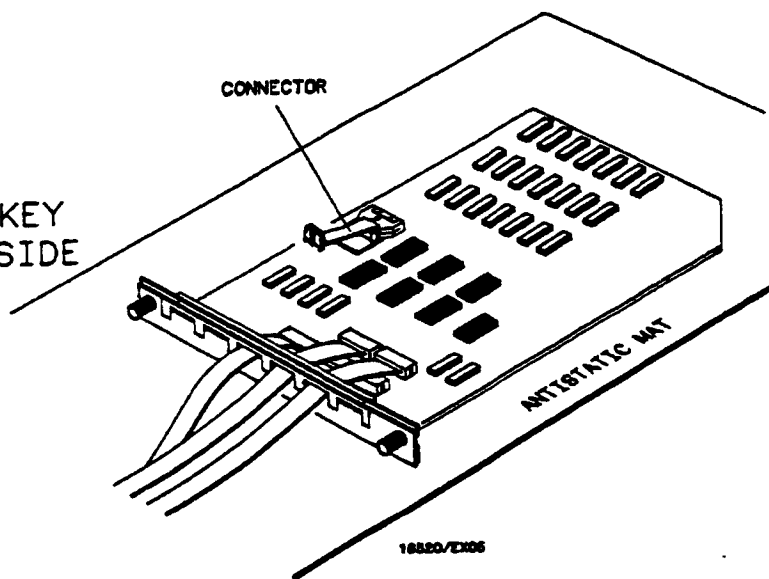

Figure 6-14. Cable Position
- i. Lay cable flat and pointing out to the rear of card. See figure 6-14.